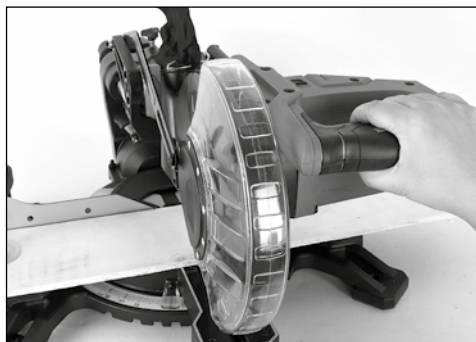

Fig. 22
7.2 Body and Hand Position – Fig.22